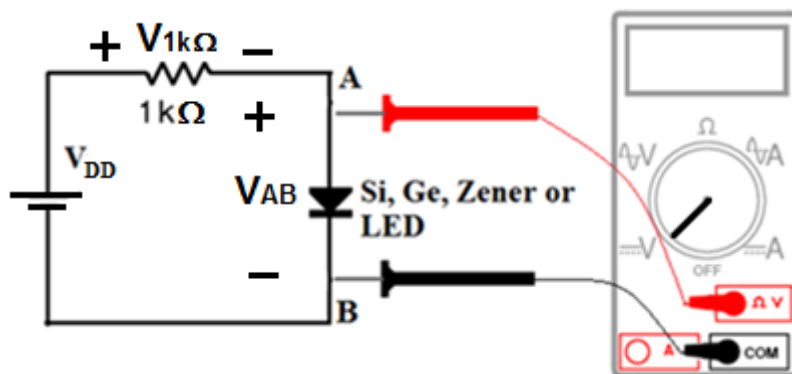

Figure 2 Exploring the behavior of semiconductor diodes.
1. Connect the circuit shown in Fig. 2.